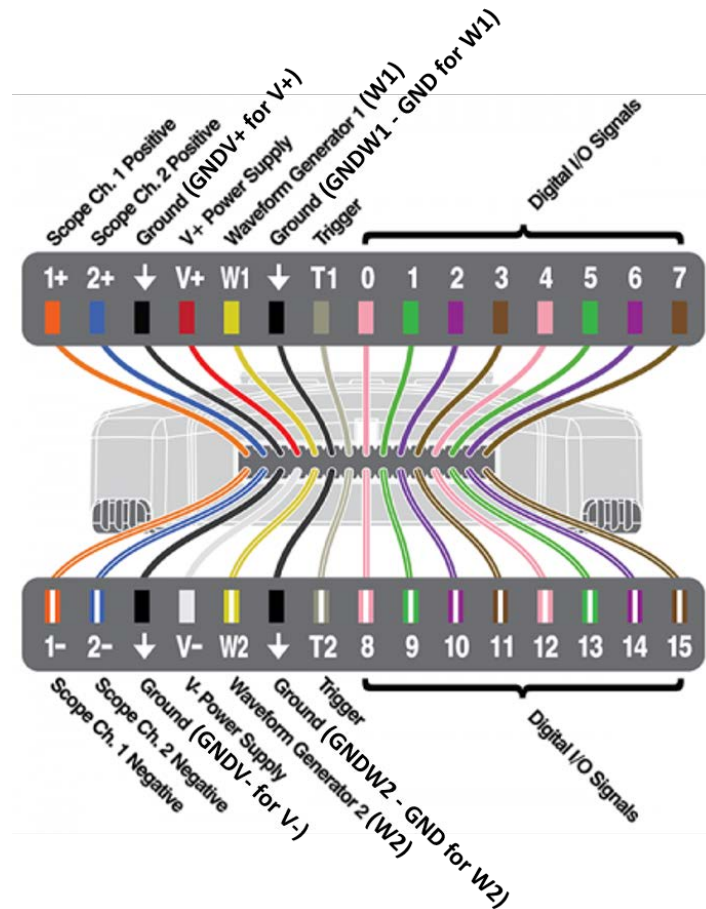

Fig. 3 Diagram for the port definition of an Analog Discovery 2 (AD2)
- 1.8 Use the port definition diagram of the AD2 shown in Fig. 3 when setting up your circuits.